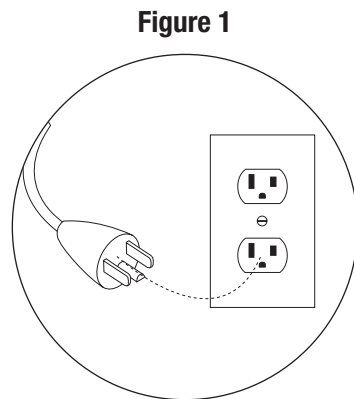

Figure 1
2. The grill is equipped with a 3-conductor cord and a dry GFI (Ground-Fault Interceptor) 3 prong outlet (Figure 1).